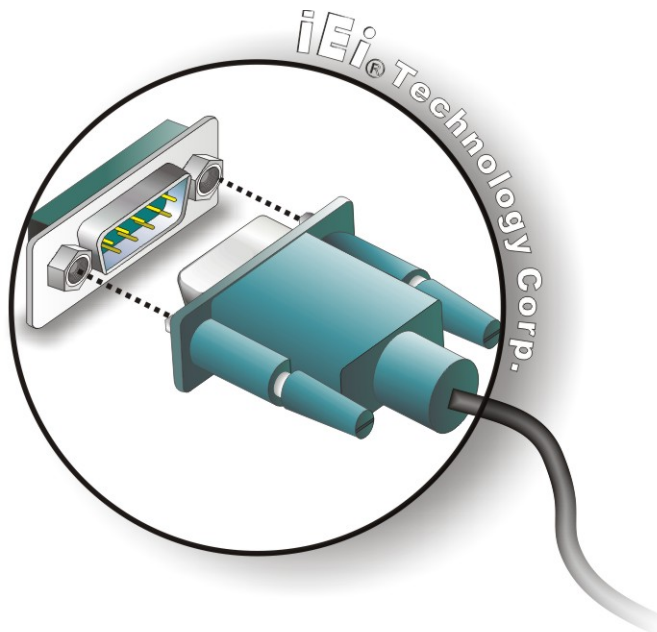

Figure 4-20: Serial Device Connector
Step 2: **Insert the serial connector.** Insert the DB-9 connector of a serial device into the DB-9 connector on the external peripheral interface. See Figure 4-20.